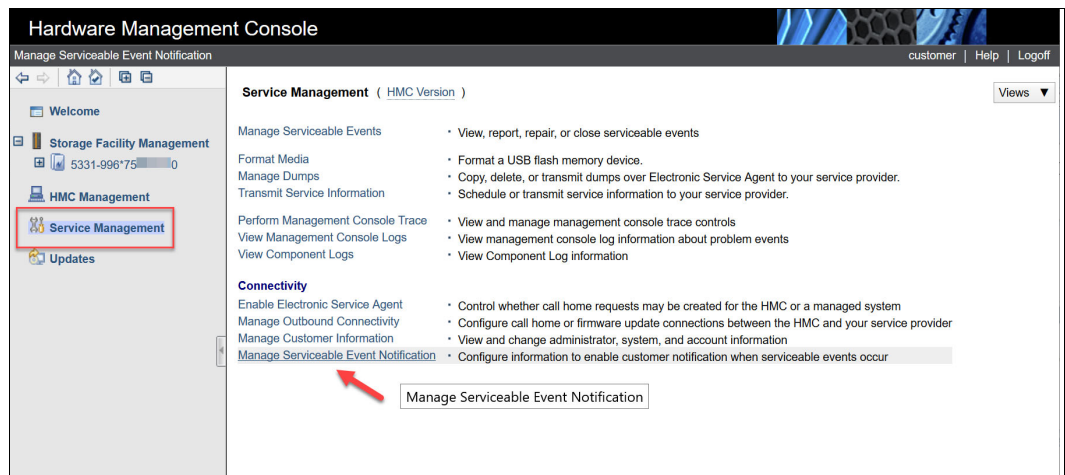

Figure 12-2 HMC Manage Serviceable Event Notification Selection
2. Select **Manage Serviceable Event Notification**, as shown in Figure 12-2.